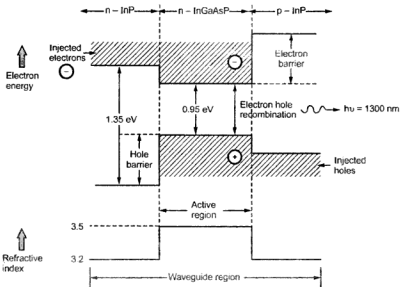

Fig. 3.1.1 Double heterojunction (DH) emitter
In order to achieve efficient confinement of emitted radiation **double heterojunctions** are used in LED structures. A heterojunction is a junction formed by dissimilar semiconductors. Double heterojunction (DH) is formed by two different semiconductors on each side of active region. Fig. 3.1.1 shows double heterojunction (DH) light emitter.